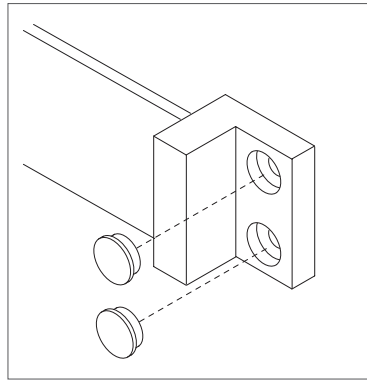

Figure 11
13. Install hole plugs over the end bracket screws. (Figure 11).